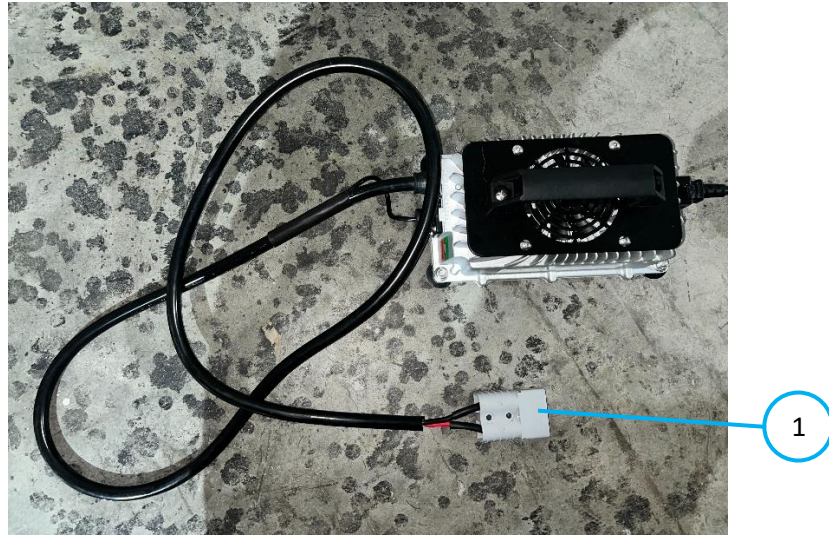

Fig. 2
3. Grab the batteries cable port and plug it into the charger port (Fig. 2 – 1). The cable should fit snugly; it requires some force to be inserted.